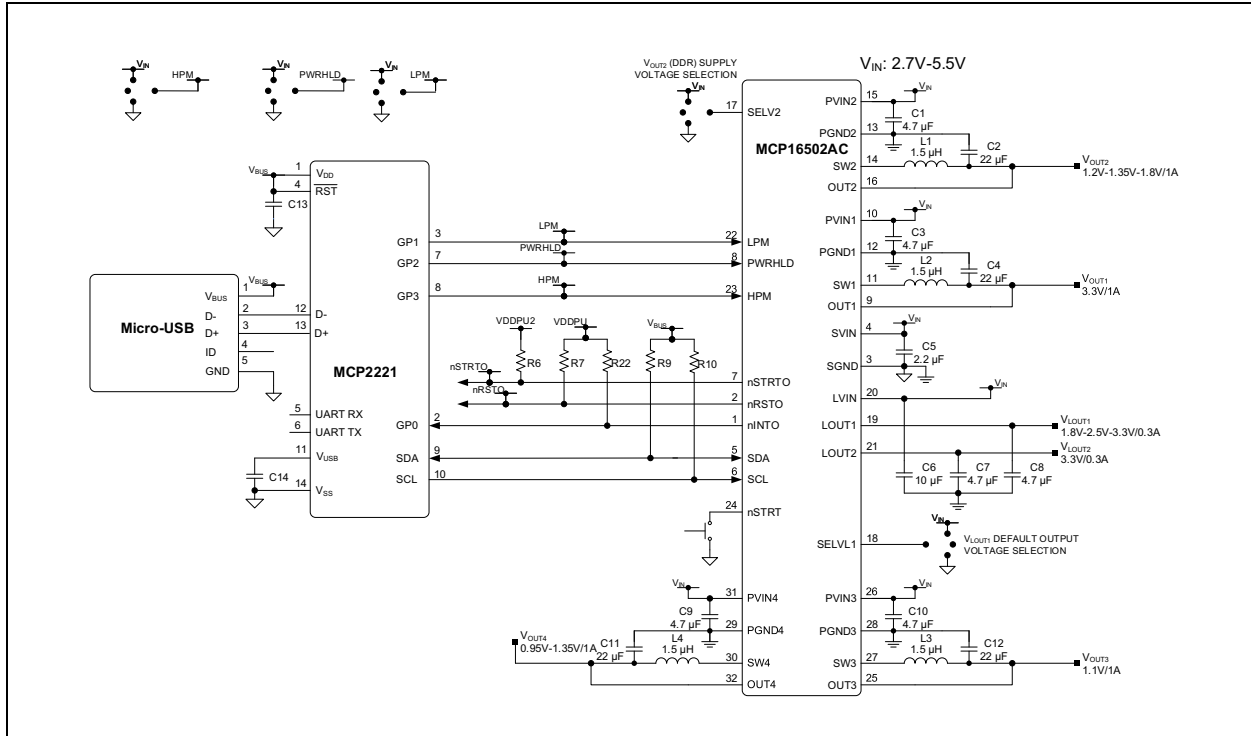

FIGURE 2-1: MCP16502 Evaluation Board with MCP2221 I²C Bridge.
- Updated Figure 2-1: “MCP16502 Evaluation Board with MCP2221 I2C Bridge.”